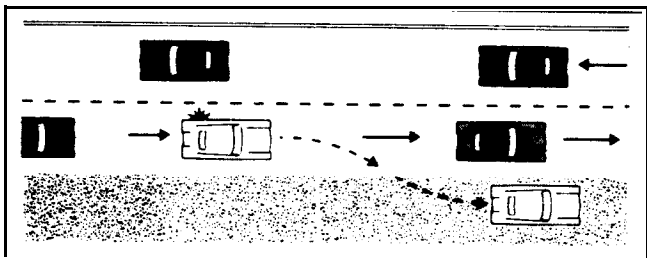

FIGURE 24
c. **Parking on Highways.** When an emergency occurs on a highway, move the vehicle as far to the right as possible; when condition of the shoulder permits, move completely off the traffic lanes (Figure 24) to avoid interfering with other traffic.